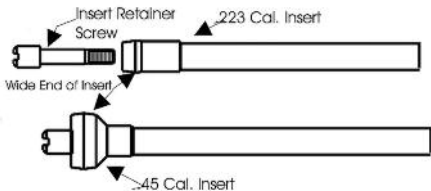

Figure 2-3
2. Slip the appropriately sized insert onto the Insert Retainer Screw. The widest end of the insert is slipped onto the Insert Retainer Screw first. See Figure 2-3 below.